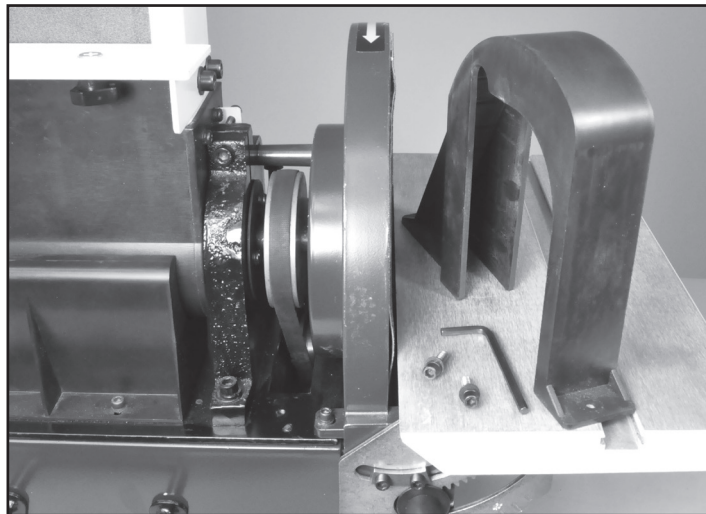

FIG. 15
1. To gain access to the V-Belt (Part #8), the Belt Cover (#39) must be removed, by unscrewing the two hex head Screws (#112). FIG. 15.